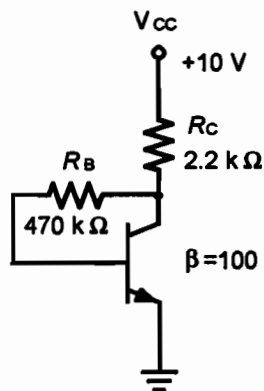

Figure 14.1
1. Construct the circuit in Figure 14.1.
2. If the circuit in Figure 14.1 were modified to include an emitter resistance, how do you think this would affect the beta-independent nature of this circuit? *Hint:* Set up a beta box model for the modified circuit form.
3. The collector saturation current for the circuit in Figure 14.1 is:
5. Assuming a transistor beta of 150, changing  $R_B$  in the circuit in Figure 14.1 to 330 k $\Omega$  would put the transistor into saturation.